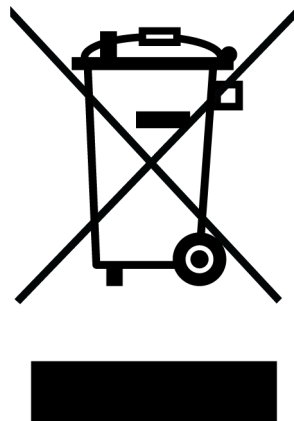

Figure 11 **Crossed out 'wheelie bin' symbol**
- marked correspondingly with the crossed out 'wheelie bin' logo (see Figure 11)